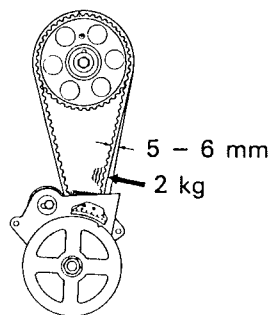

Fig. 5
9. Measure the timing belt tension as shown in Fig. 5 below.